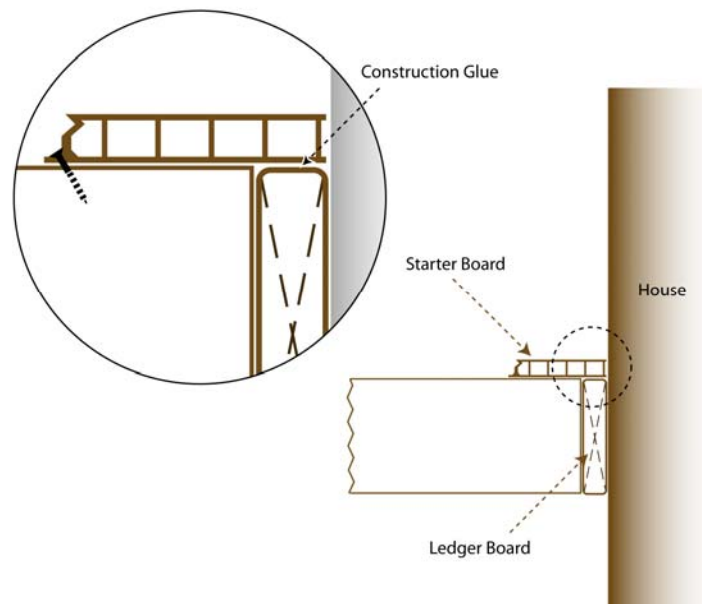

Figure 4: Starter Board Installation
3. Install the starter board by running a bead of construction glue along the ledger board (Figure 4). Using #8, 2 to 2 ½” screws, fasten the starter board at each joist along the screw ledge. To avoid splitting, drill pilot holes within 1” of board ends before driving the screws.